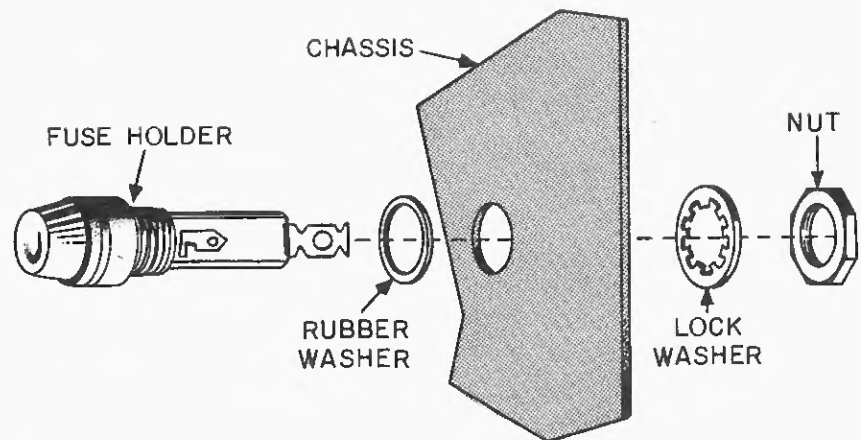

FIGURE 5
- ☒ F-1, fuse holder with hardware. See Figure 5. Place the rubber washer over the threaded end of F-1. Insert F-1 in its mounting hole from outside the chassis. Position the terminals as shown and fasten with the lockwasher and nut supplied.